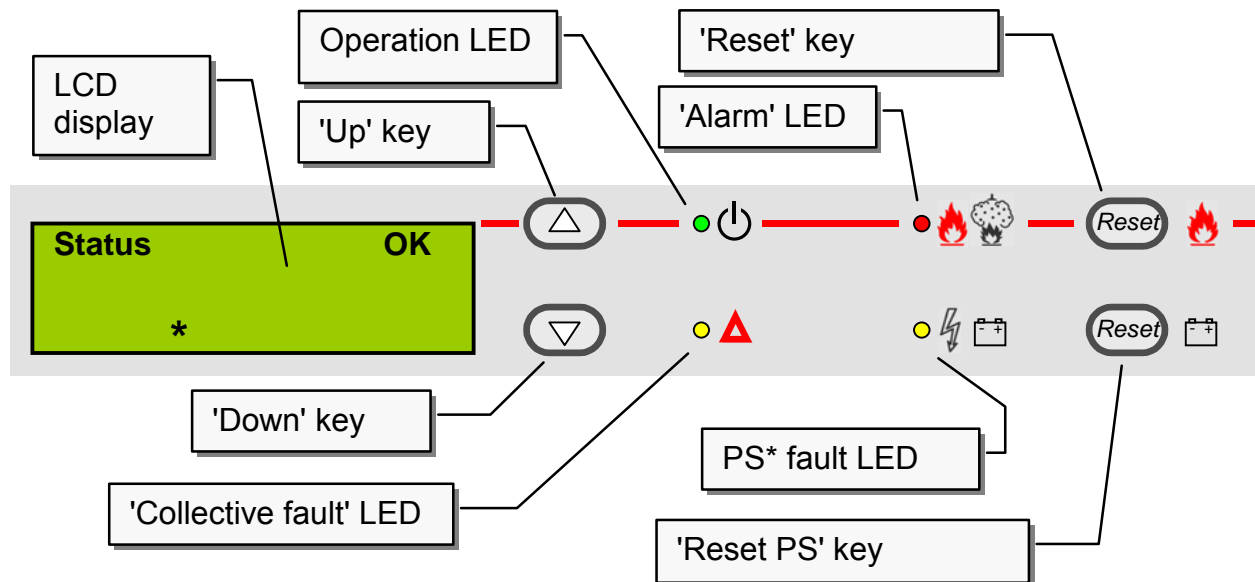

Figure 1: Display and control elements
- Check the temperature indicator for proper condition (see figure 1)